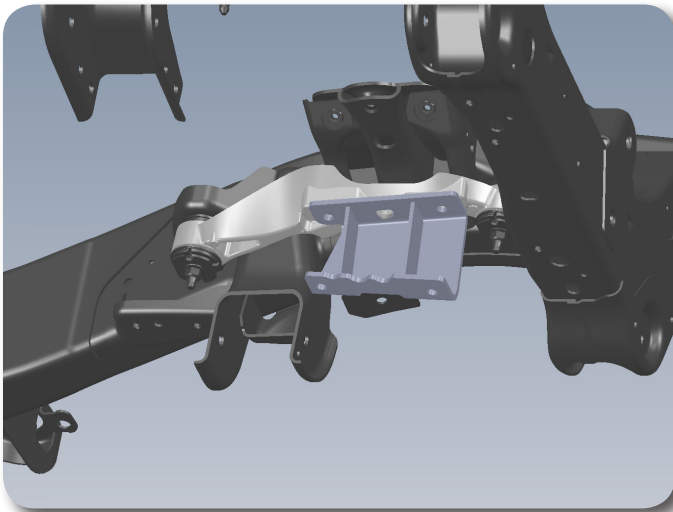

Figure 16
26. Install the new driver's side differential bracket to the original mount with the factory bolts **Figure 16**. The bracket surface with 3 holes in it goes to the OE mount and the open face points toward the inside of the vehicle. Torque bolts to 65 ft-lbs.